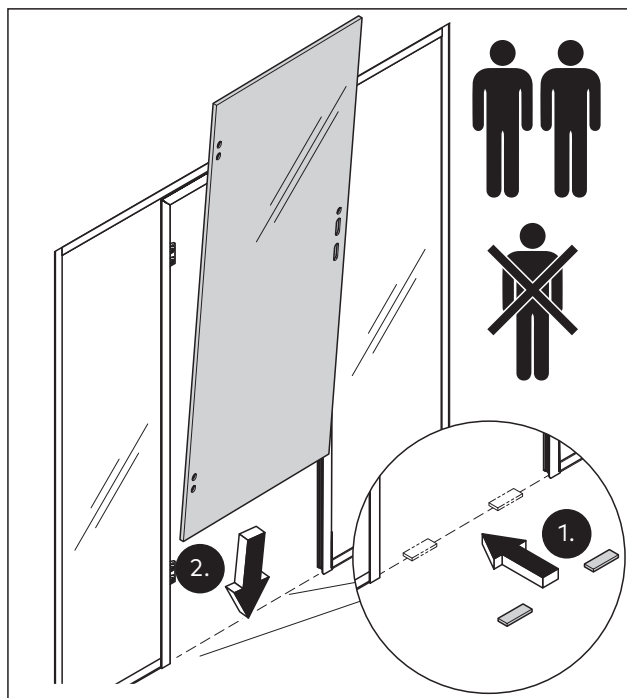

Fig. 50 Place the glass door on the lower spacers
1. Ensure a horizontal clearance of $7\text{ mm} \pm 1\text{ mm}$ between the glass door and the finished floor level (FFL) with spacers (Fig. 50).